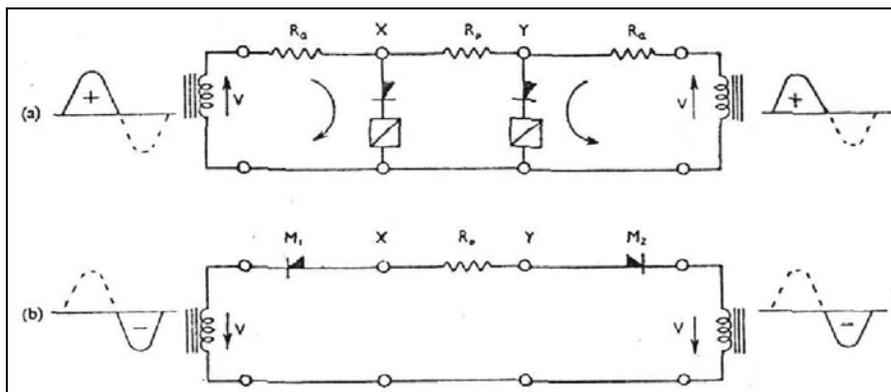

Fig. X.5: Behaviour of basic circuit under internal fault conditions fed from both ends, (a) and (b) show the effective circuits during alternate half-cycles.
- o When a fault occurs within the protected zone and with current fed equally from both ends, the effective circuits during successive half-cycles are those shown at (a) and (b) in Fig. X.5. From this it is seen that pulses of current pass through each relay on alternate half-cycles and the relays at both ends will operate. If the current is fed from one end only, the relay at the remote end (in series with the pilot loop resistance R_p) is energised in shunt with the relay at the feeding end.